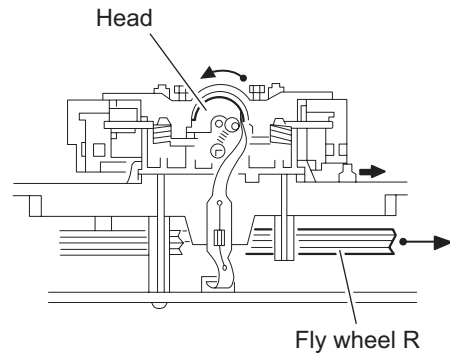

Fig.2
- (1) While moving the trigger arm on the right side of the head mount in the direction of the arrow, turn the flywheel R counterclockwise until the head mount comes ahead and clicks.
- (2) The head turns counterclockwise as you turn the flywheel R counterclockwise (See Fig.2 and 3).
- (3) Disconnect the flexible wire from connector CN31 on the head amplifier & mechanism control board.
- (4) Remove the spring from the back of the head.
- (5) Loosen the azimuth screw for reversing attaching the head.
- (6) Remove the head on the front side of the head mount.